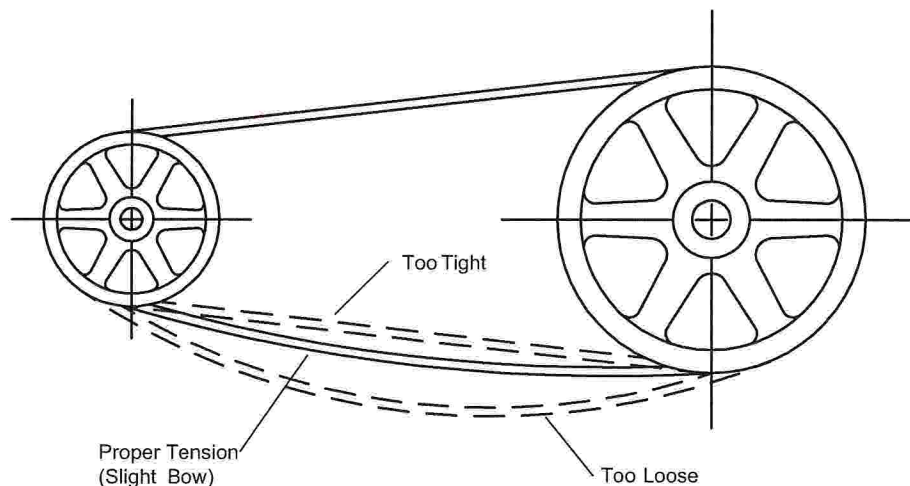

Fig. 4 *Belt tension.*
- (i) Shorten the center distance between the driven and driver sheave so the v-belts can be slipped into the sheave groove without damage. While the v-belts are still loose on the drive, rotate the drive until all the slack is on one side. Then increase the center distance until the v-belts are snug (Figure 4). NOTE: Never "roll" or "pry" the v-belts into the sheave grooves. This can damage the v-belt cords and lead to v-belt turnover, short life, or actual breakage. Moreover, it is both difficult and unsafe to install v-belts this way. Keep takeup rails, motorbase, or other means of center distance adjustment free of dirt, rust, and grit. Lubricate adjusting screws and slide rails as required.